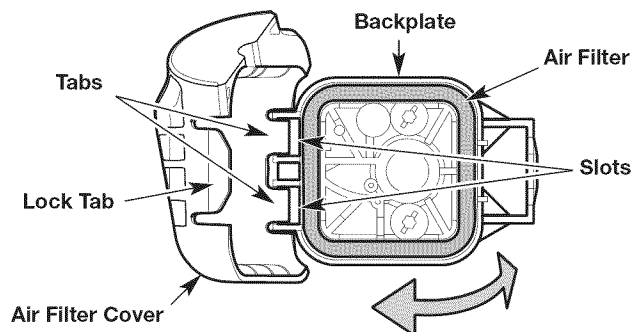

Fig. 9
1. Open the air filter cover: press in the lock tab and swing the air filter cover to the left (Fig. 9).
2. Remove the air filter (Fig. 9).
6. Reinstall the air filter (Fig. 9).
7. Close the air filter cover: insert the tabs on the air filter cover into the slots on the backplate. Swing the air filter cover to the right and press it closed until the lock tab snaps into place (Fig. 9).